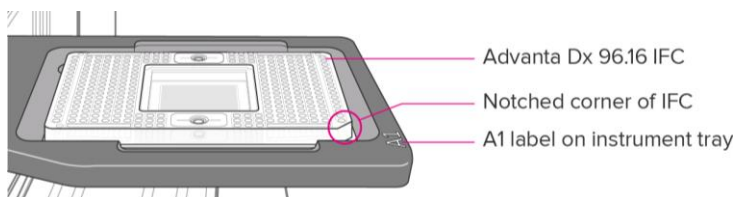

Figure 14. Loaded IFC on instrument tray
- 6 Place the loaded IFC on the instrument tray and align the notched A1 corner on the IFC with the A1 label on the tray (Figure 14). In the Data Collection software, click **Load**.